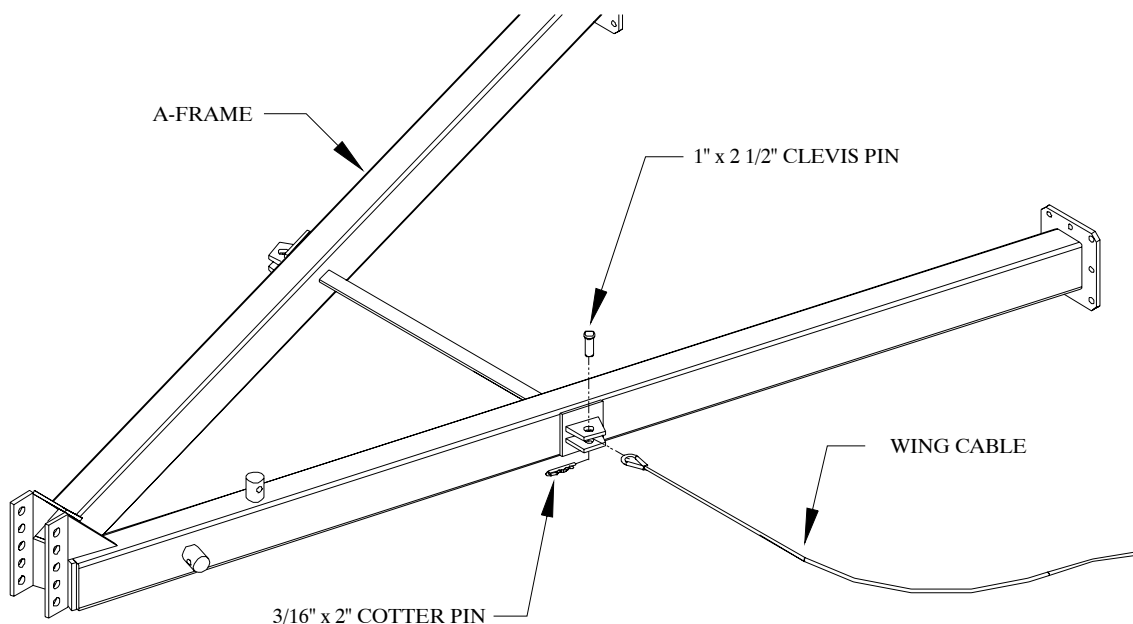

Figure 20
2. Pin one end of a wing cable to the tab on the side of the A-Frame as shown in Figure 20. Use one 1 " x $2\frac{1}{2}$ " clevis pin and $\frac{3}{16}$ " x 2 " cotter pin.